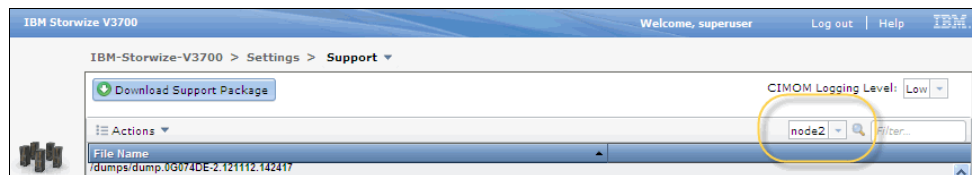

Figure 9-17 Configuration backup select configuration node
2. Select the configuration node on the support view, as shown in Figure 9-17.